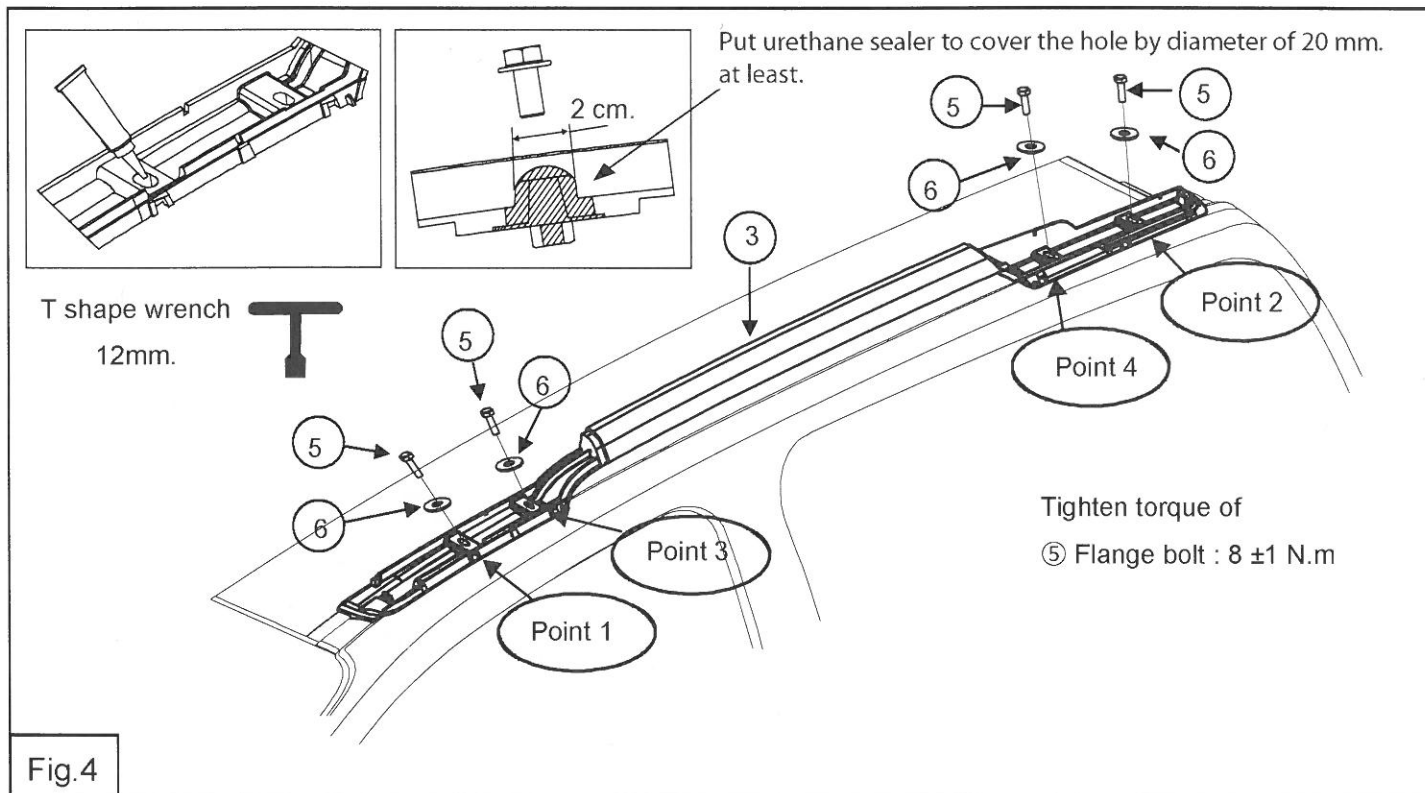

Fig.4
6. Place (3) Roof rail assy by lining up to holes. Put urethane sealer at the holes to prevent water leakage to inner roof. Refer to the left upper corner of Fig 4. (Put urethane sealer to cover the hole by diameter of 20 mm. at least). Fix the (3)Roof rail assy by tightening (5)Flange bolts M8X35 with (6) Plain washer according to the tightening sequence indicated 1 to 4 in Fig 4.